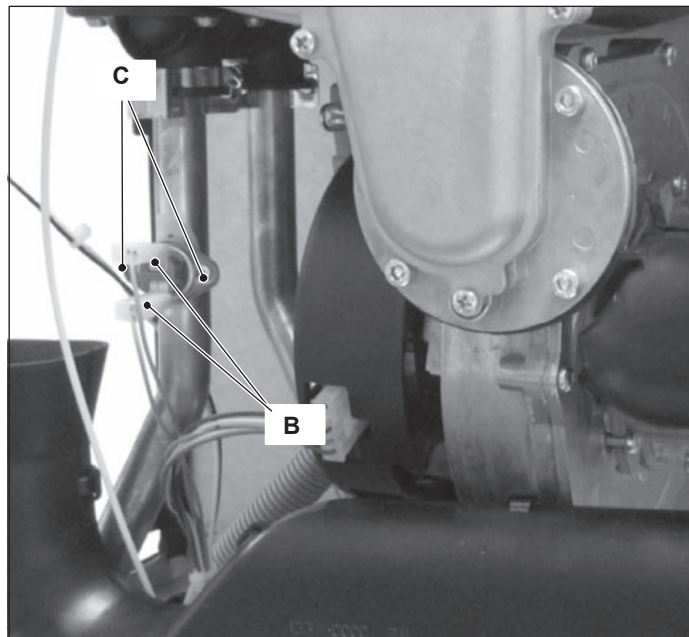

Figure 19.2
- 2 Disconnect the wiring B (detail in Figure 19.2).